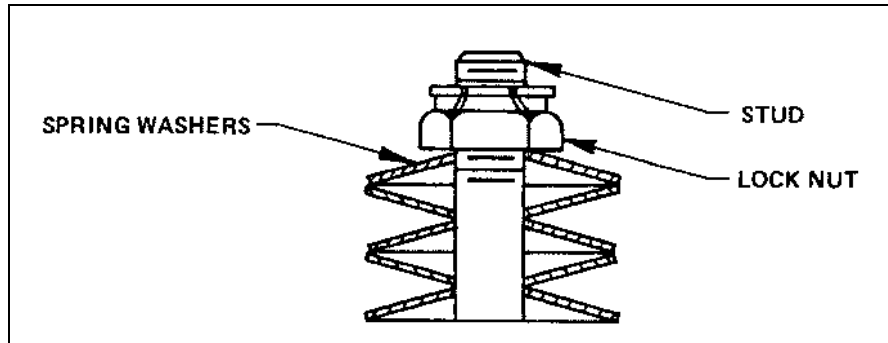

Figure 2 – Spring Washer Stackup
2. Slide the flat washer (PEC Valves only) down the plug stem stud, then install the spring washers as shown in Figure 2.